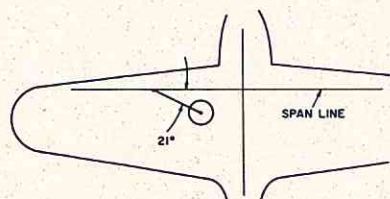
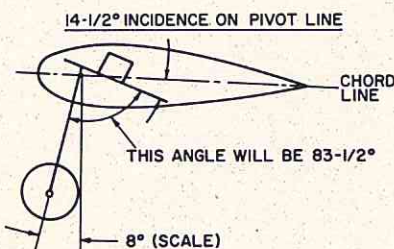

FIG. 5
FIG. 6
5. Most modelers are mystified by the geometry involved in the "rake forward when down - rake back when up" type of LG, so very common especially in WW II. The *Hawkers, Spitfire, P-51*, etc., etc., etc., have this setup. Actually, it's quite simple. The LG unit or *pivot line* must be mounted at a dual angle in the wing. Here's how to calculate what this angle must be: a) Measure angle of rake forward when LG is down, relative to vertical thru wing chord. Example shown is 8° (See Fig. 4). b) Measure angle of rake back when up, relative to span line. Example is 21° (Fig. 5). c) Add 2 together and divide by 2. Example 8° + 21° = 29° divided by 2 = 14 1/2°. d) The pivot line must now be mounted in the wing at 14 1/2° incidence within the section (Fig. 6)